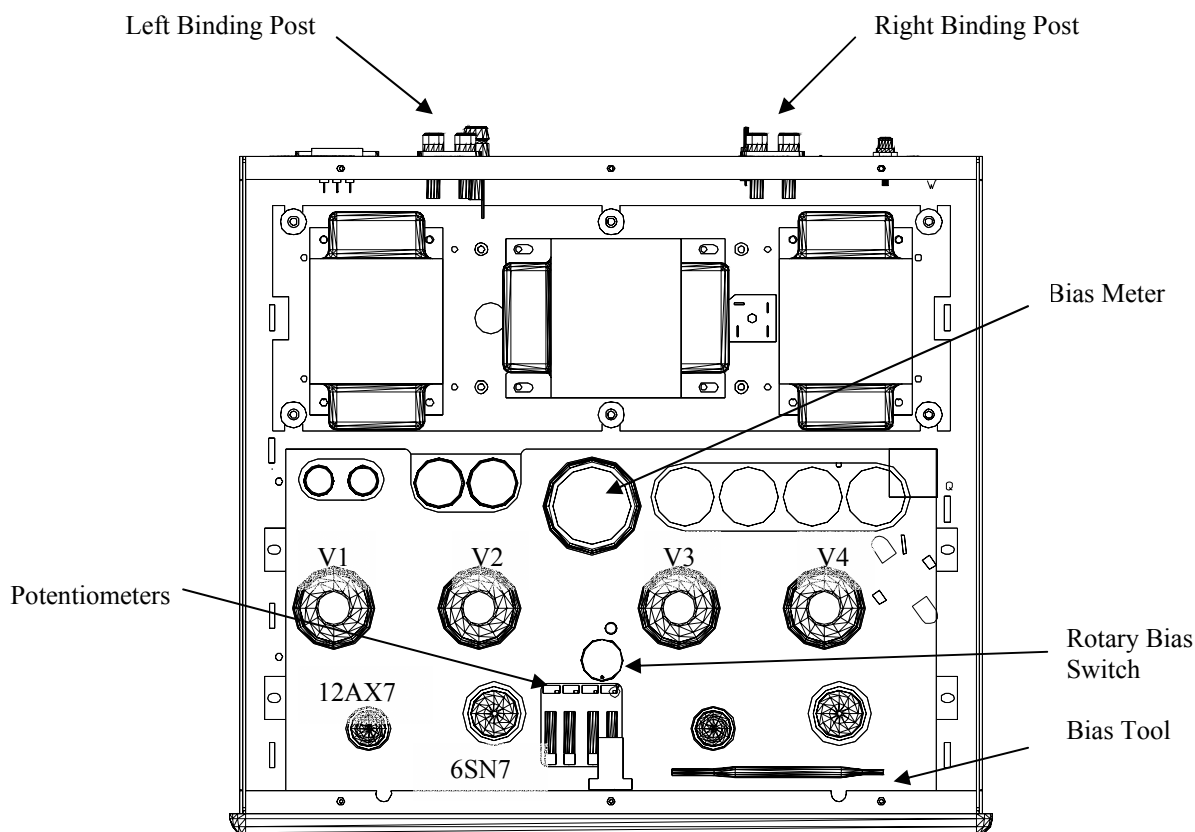

Figure 1 Tube and Deck Layout
4. Remove the top cover of the amp using a #2 phillips screw driver to remove the 10 cover screws. Using a glove or a clean dry cloth , install the tubes using the diagram in Figure 1. The Output Tubes will have a label designating their proper locations.